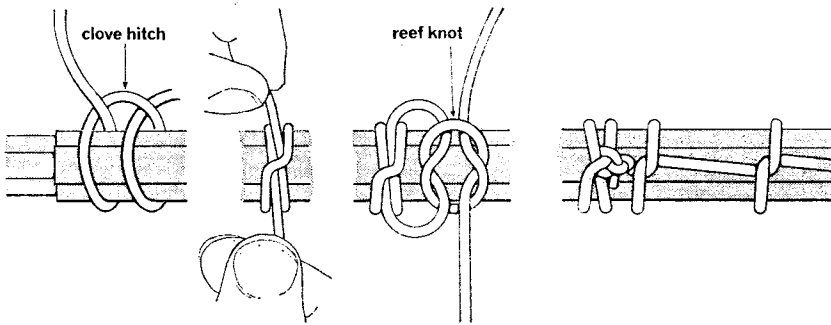

Fig. 30. Knotted start
(2) *Knotted start.* Make a clove hitch around the cable and secure the ends with a reef knot (Fig. 30). Make a lock stitch and then lace normally.